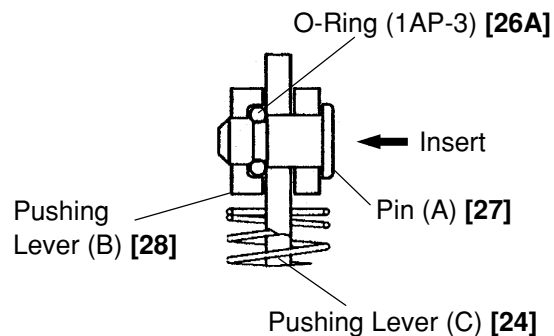

Fig.29
- After mounting the O-Ring (1AP-3) [26A], adjust the hole positions of Pushing Lever (B) [28] and Pushing Lever (C) [24] and insert Pin (A) [27] (Fig. 29).
- After reassembly, check that Pushing Lever (A) [30], Pushing Lever (B) [28] and Pushing Lever (C) [24] move smoothly as shown in page 9, and also check that the nail feeder ass'y moves smoothly (Fig. 29).